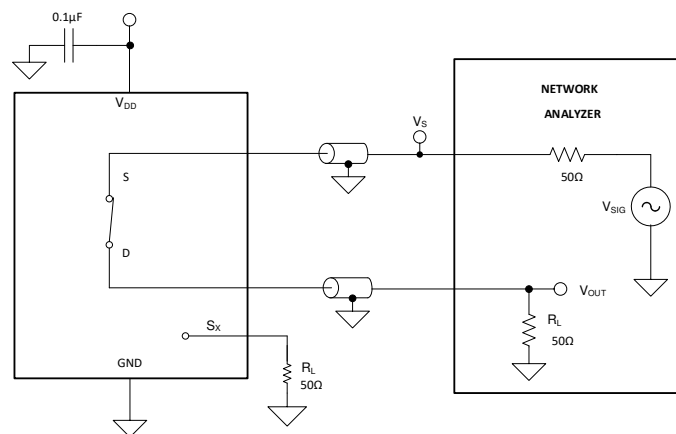

**Figure 8-9. Channel-to-Channel Crosstalk Measurement Setup**
Crosstalk is defined as the ratio of the signal at the drain pin (D) of a different channel, when a signal is applied at the source pin (Sx) of an on-channel. Figure 8-9 shows the setup used to measure, and the equation used to compute crosstalk.